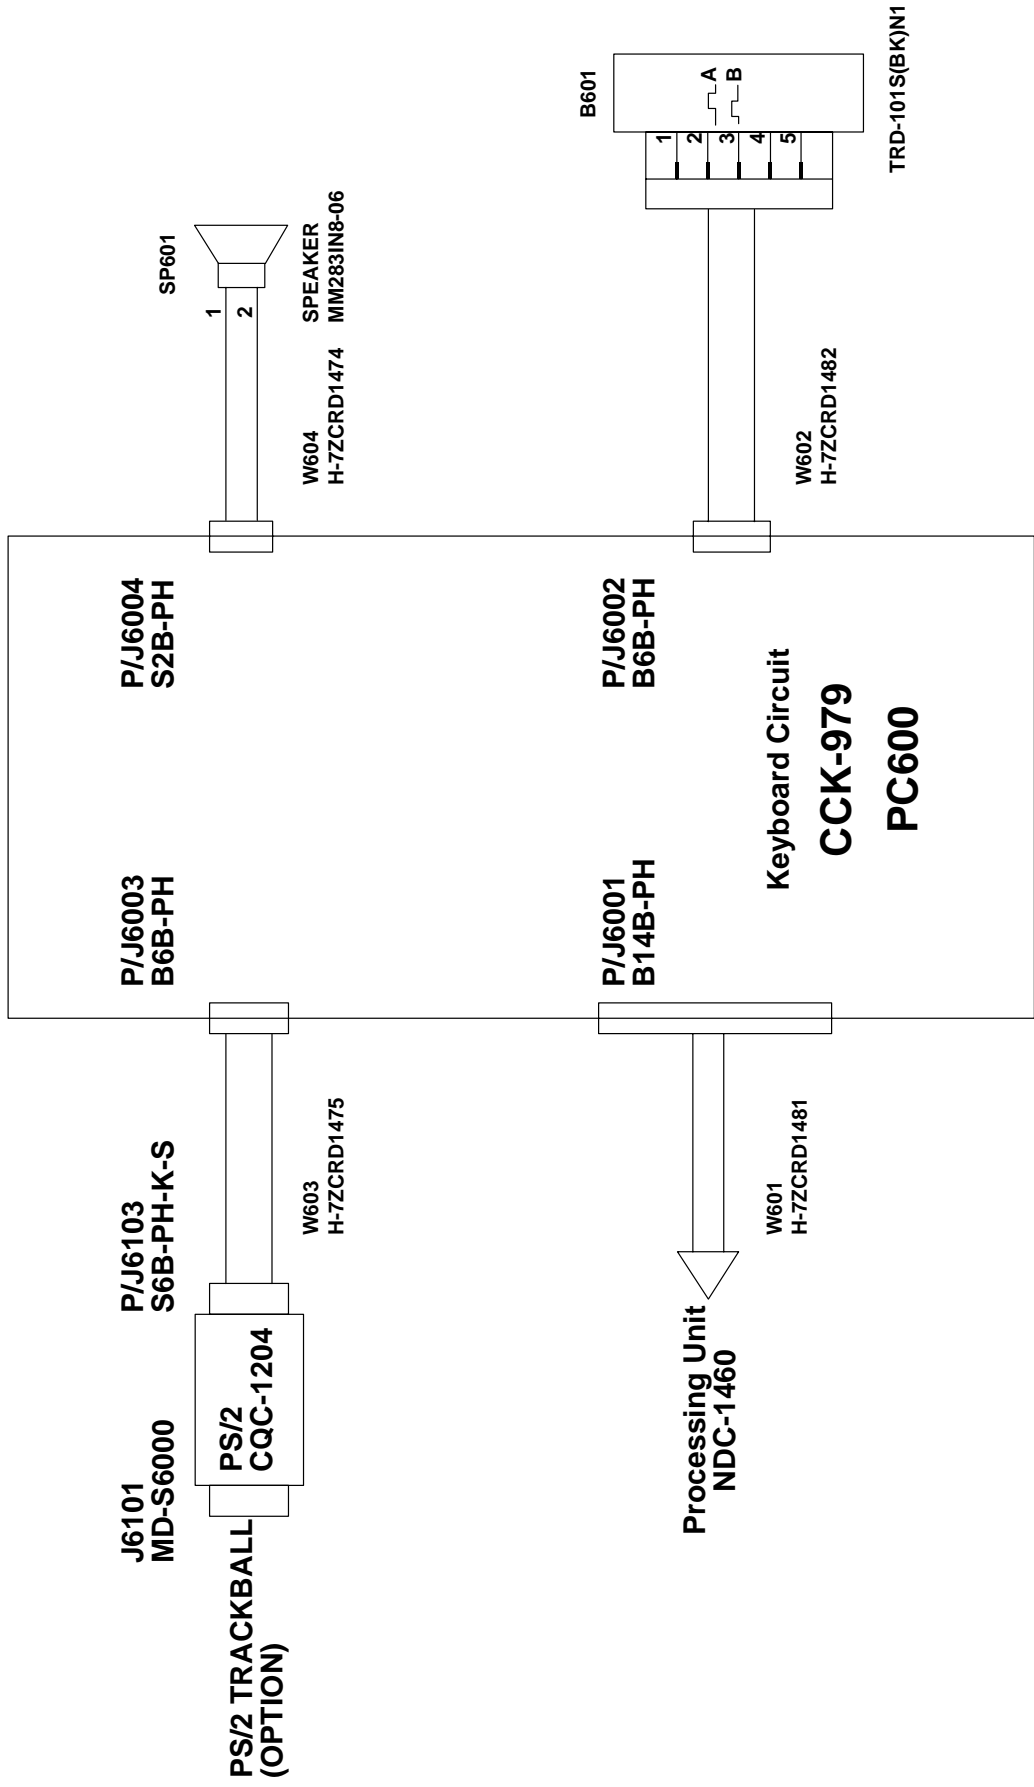

Figure 7 Keyboard Unit, NCE-7699A Inter-connection Diagram
- FIGURE 7 KEY-BOARD UNIT, NCE-7699A INTER-CONNECTION DIAGRAM